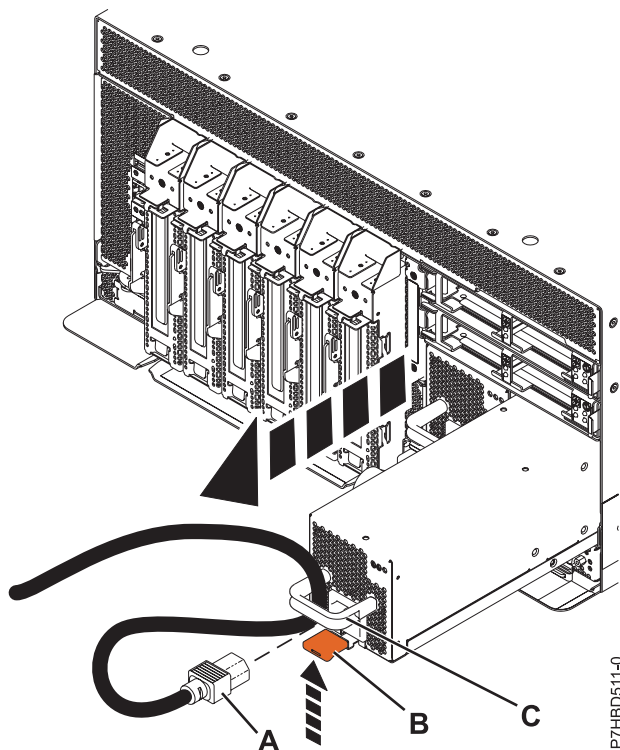

Figure 3. Removing the power supply
5. Disconnect the power cord (A).
6. Lift the tab (B) toward the power cord retainer (C) to release the power supply, as shown in Figure 3.
7. Pull the power supply away from the system, as shown in Figure 3.